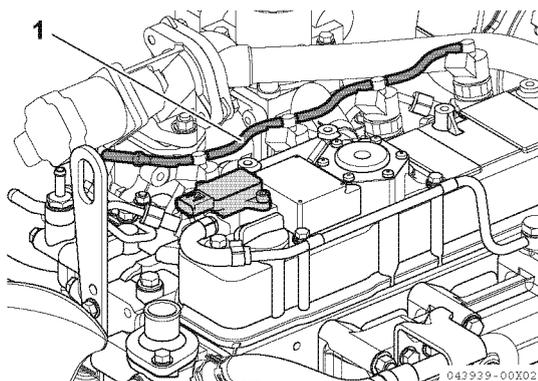
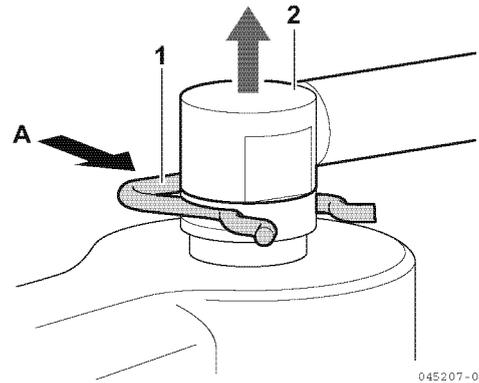

Figure 7-5
Figure 7-6
3. Remove the fuel return hose (1, **Figure 7-5**) from the injector. Pull out the fuel return hose connector (back leak rail connector) (2, **Figure 7-6**) vertically while fully pressing the retaining ring (clip) (1, **Figure 7-6**) attached on the top of the injector in the direction of the arrow A (**Figure 7-6**). Do not hold the hose. This may damage the hose. Do not reuse the removed clips.